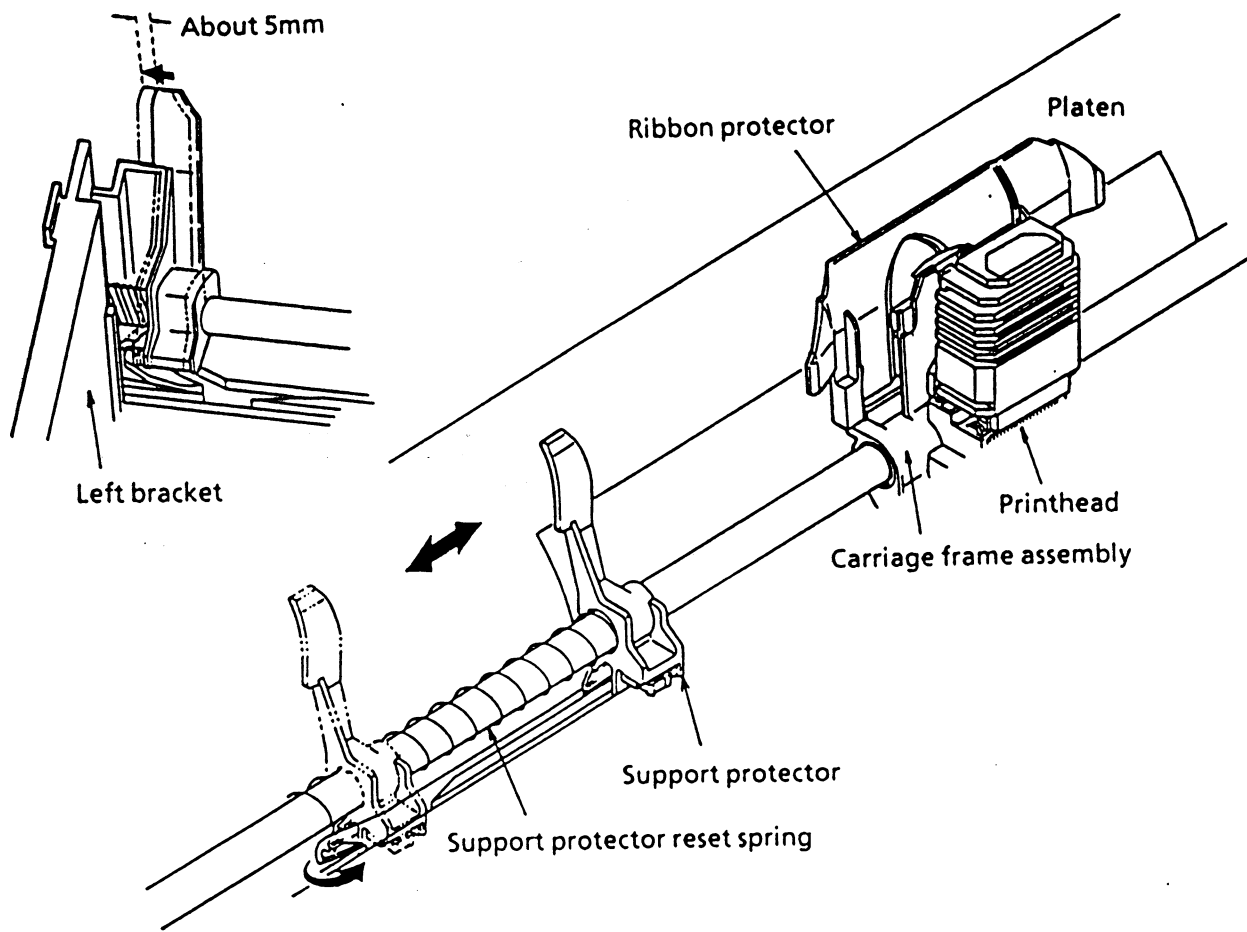

Figure 3-16
**(4) Top line print mechanism (See Figure 3-16)**